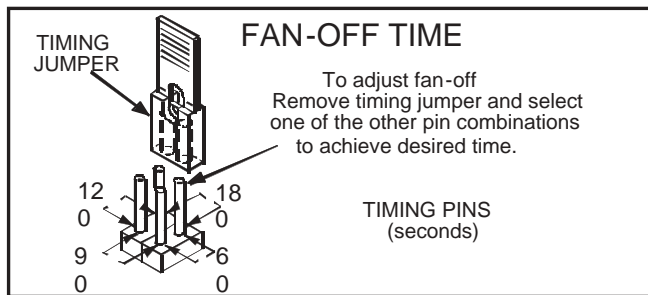

Figure 12 Note:- (EGC Ignition Board Only)
- 5 - Clean the inside of each burner with a bottle brush as shown figure 12.